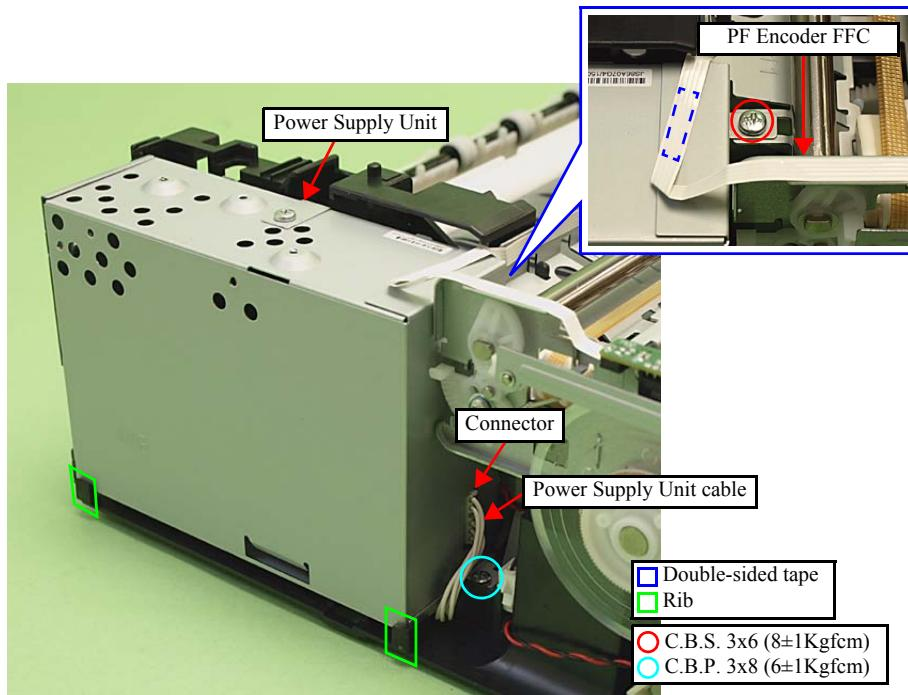

Figure 4-49. Removing the Power Supply Unit
- Peel off the PF Encoder FFC from the Power Supply Unit. (See Fig. 4-49.)
- Disconnect the Power Supply Unit cable from the connector of the Power Supply Unit. (See Fig. 4-49.)
- Install the Power Supply Unit inside the ribs (x2) of the Base Frame. (See Fig. 4-49)
- Be careful not to damage the Power Supply Unit cable by catching it with the screw when screwing. (See Fig. 4-49)
- Secure the PF Encoder FFC to the Power Supply Unit with the double-sided tape. (See Fig. 4-49)